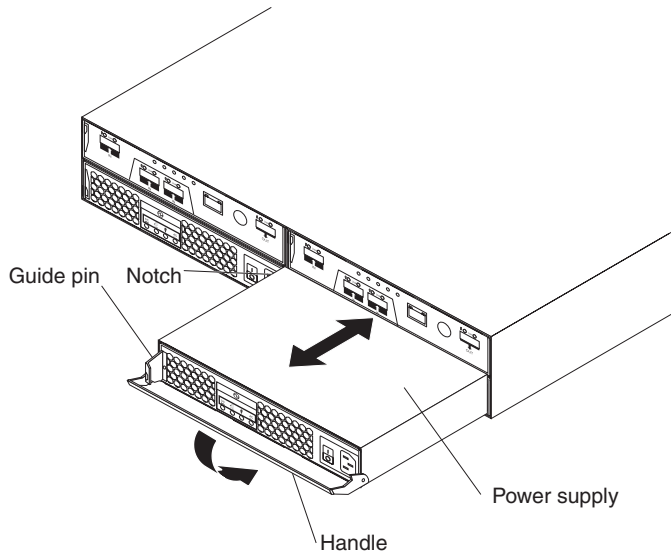

Figure 48. Replacing a power-supply unit
To replace a power-supply unit, complete the following steps. Figure 48 on page 86 illustrates removing and inserting a unit.
11. Slowly pull the handle away from the chassis to remove the power-supply unit, as shown in Figure 48.